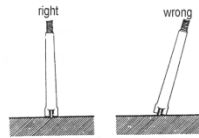

Fig. 8
- * When the superficial temperature is taken, the top of temperature probe should have a close contact with the surface to be measured (see Fig. 8).